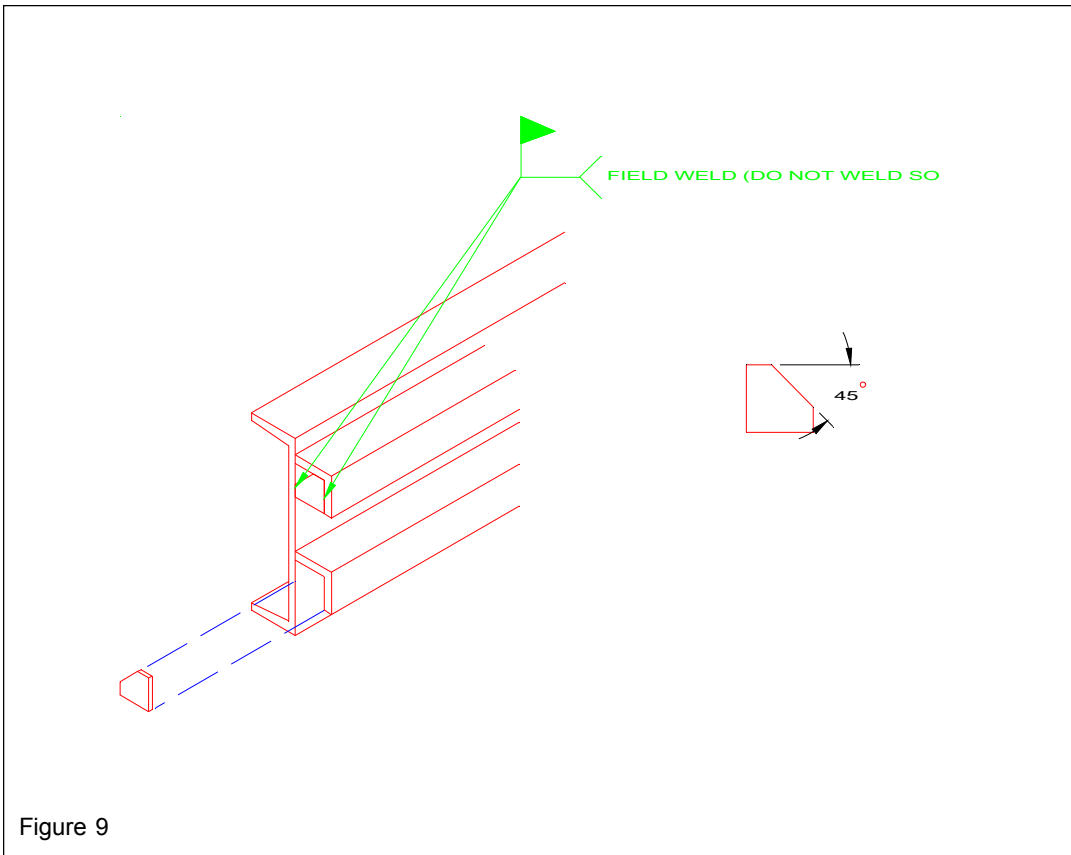

Figure 9
6. Place a 1/4" x 2" x 8" or (2) 1/4" x 2" x 2" end stops along the ends of the 1/2" x 2-1/2" x 2-1/2" track angles. This will cap off tracks assuring railramp can not be accidentally pushed off track (See Fig. 9).